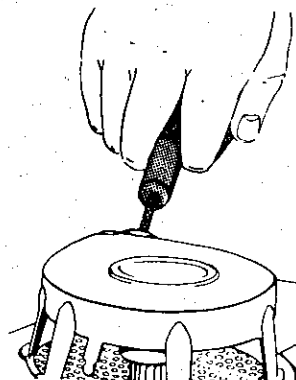

Figure 8
- b. Grasp starter handle firmly with right hand (Figure 8) and pull sideways rapidly. Return handle SLOWLY to engine.